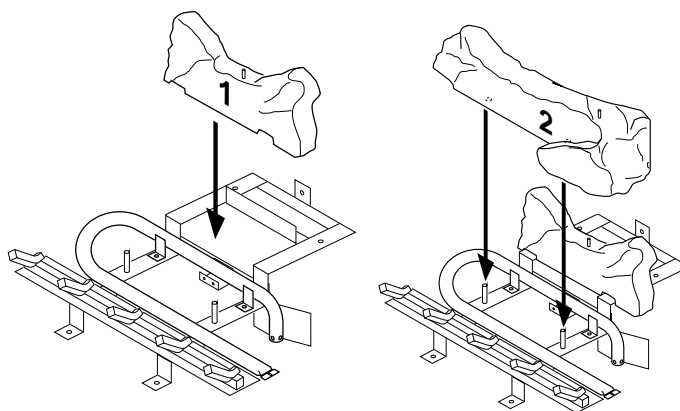

Figure 40 - Installing Log No. 1 Figure 41 - Installing Log No. 2
1. Place log #1 (rear log) on top of grate. Make sure the notches in the bottom of the log fit over the grate (see Figure 40).